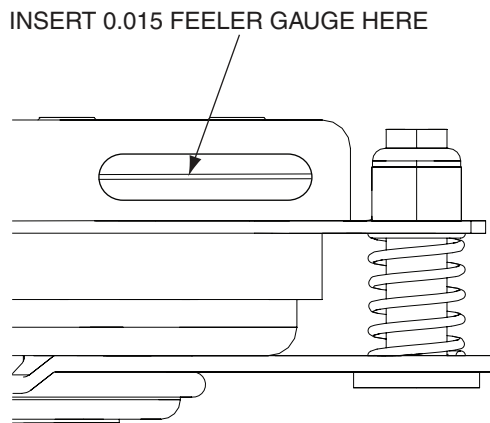

Figure 6-9. Clutch Air Gap Adjustment
2. Place a 0.015 feeler gauge in the slot between the rotor and the armature. See Figure 6-9.